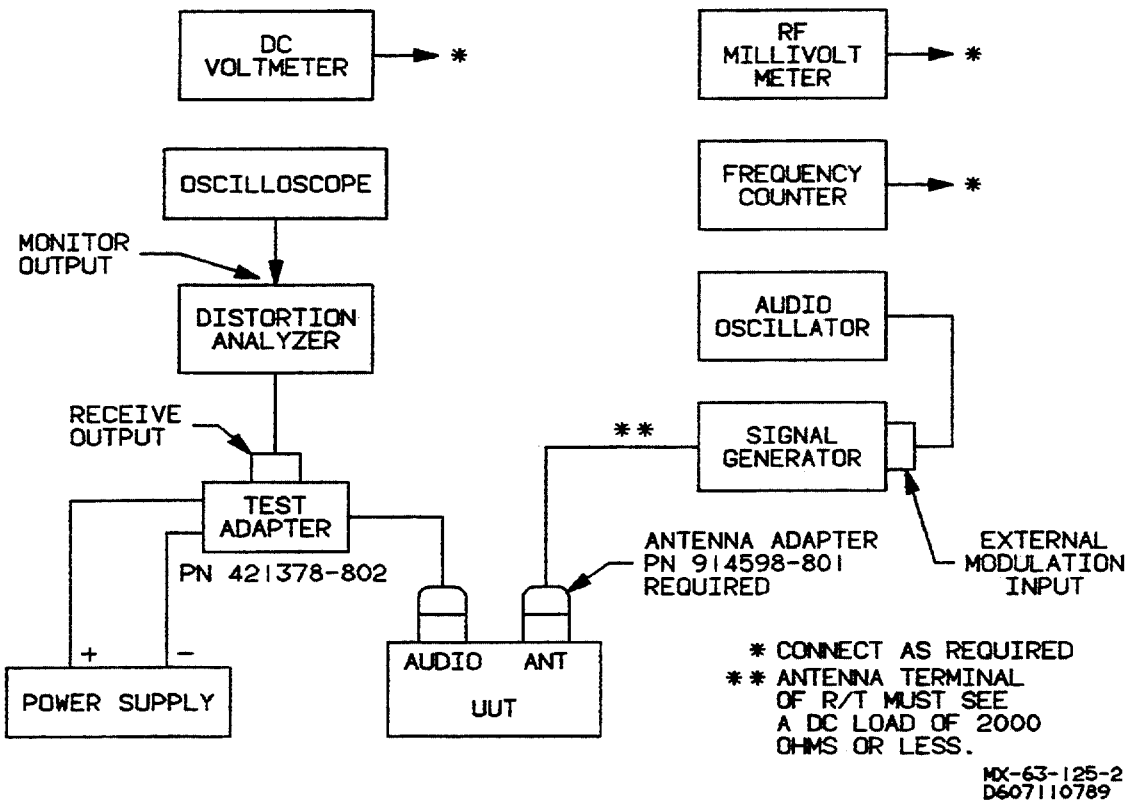

Figure 5-2. RT Receive Test Setup
28.	Connect test equipment (fig. 5-2).